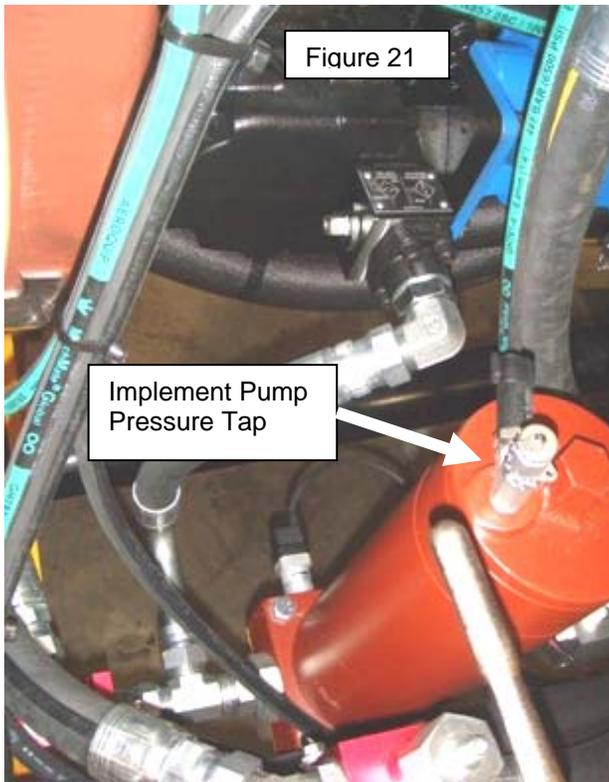

Figure 21
1. Install a pressure gage on the pressure tap on top of the pressure filter (Figure 21).